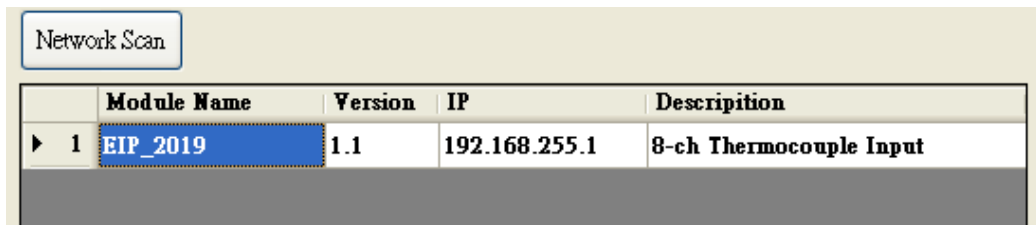

Figure 4-1 EIP-2000 Utility network scan
2. Click the “Network Scan” button to search your EIP-2000 modules(Figure 4-1).